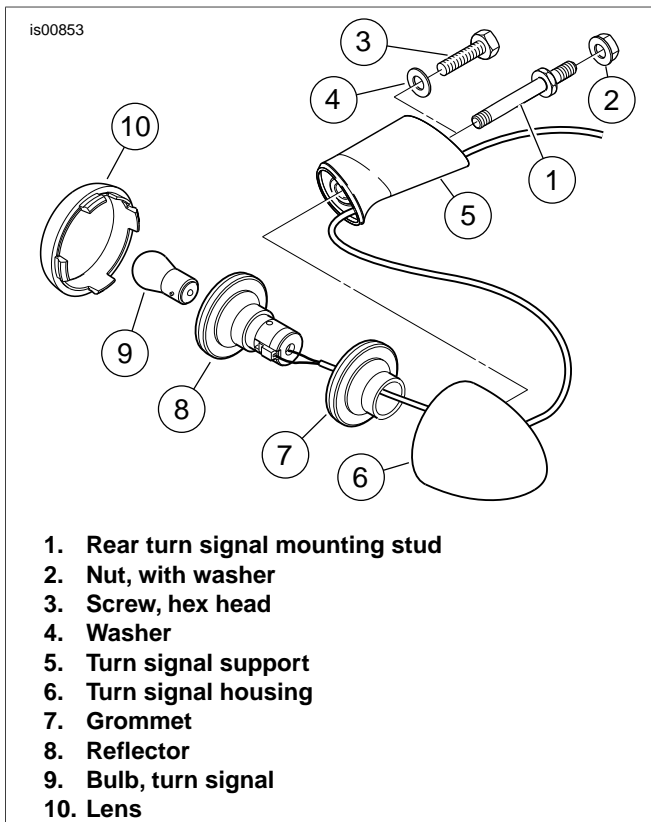

Figure 3. Rear Turn Signal Components
9. Remove the turn signals and supports from the rear fender. See Figure 3.
- a. See Figure 3. Insert the wires from the turn signal reflector (8) through the grommet (7), and